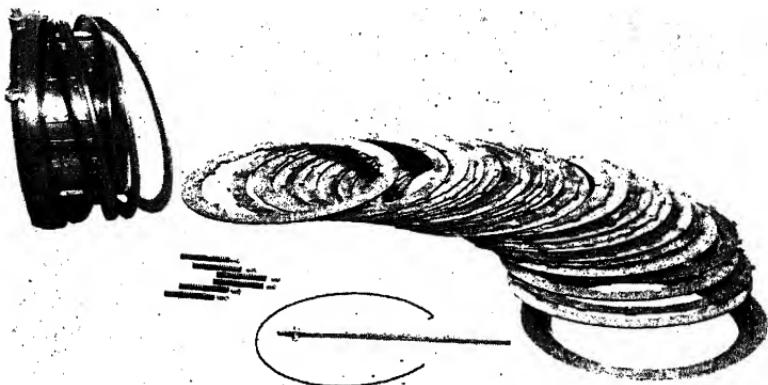

FIG. 21.—Brake rings and carrier for Goodyear brakes.
Although the mechanisms differ, the principles of operation are the same: Hydraulic pressure controls the contact between the braking surfaces whether they are friction plates or bands on brake drums. The Goodyear brake, shown in Fig. 21, uses bronze and steel disks, one set stationary and the other turning with the wheel. When forced together, they provide friction for stopping the plane.
**Goodyear Hydraulic Disk Brakes and Wheels** (Size 7.50-10 Mounting on 6.50-10 Axle, and for Either 6.50-10, 7.50-10, or 8.50-10 Tires.)—These are extremely simple, practically foolproof, powerful, smooth, quiet, and long wearing. The mechanism is nothing more or less than a multiple-disk metal-to-metal clutch especially designed and built to function as an airplane brake. Bronze disks are keyed to rotate with the wheel. Alternating steel disks, which are nonrotating, are keyed to the brake anchor bracket. The parts are seen in Fig. 21. These disks are pressed together by means of a piston actuated by a fluid line connected directly to the brake pedal. Braking power depends on the pressure applied to the pedal.